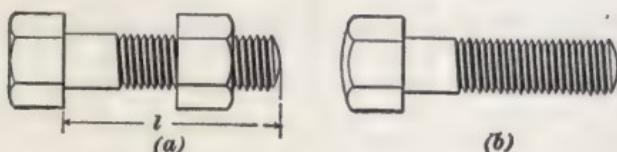

FIG. 43.
**96.** In **machine bolts**, or **bolts**, for short, one of which is shown in Fig. 43 (*a*), the shank and head are left rough, or just as they come from the bolt-heading machine. Machine bolts are regularly made in lengths varying by
half inches from  $1\frac{1}{2}$  to 8 inches. Above 8 inches and up to 20 inches the length varies by whole inches. The length of a machine bolt is always measured under the head, as the distance *l* in Fig. 43 (*a*).
**98.** **Capscrews**, one of which is shown in Fig. 43 (*b*), are bolts with either hexagonal or square heads; they have the shanks turned and the heads finished all over by milling and turning. Unlike machine bolts, they are usually furnished without nuts, unless especially ordered.